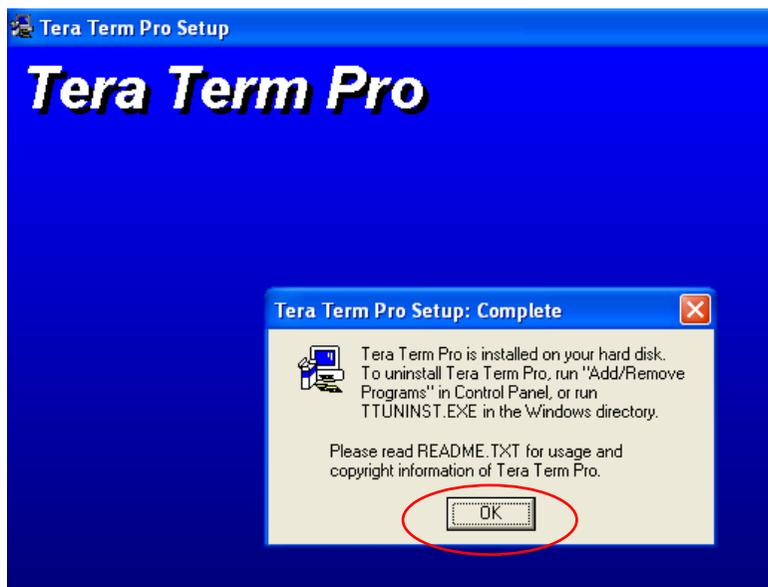

Figure 101:
5. Press 'OK' (Figure 101) then create a shortcut on your desktop (Figure 102).